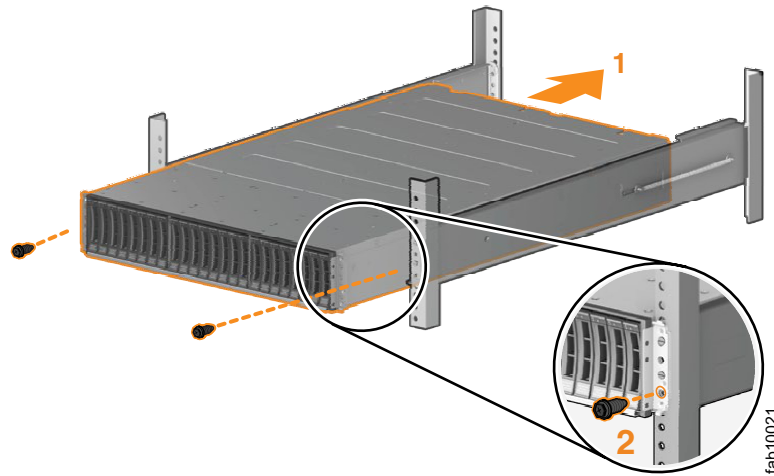
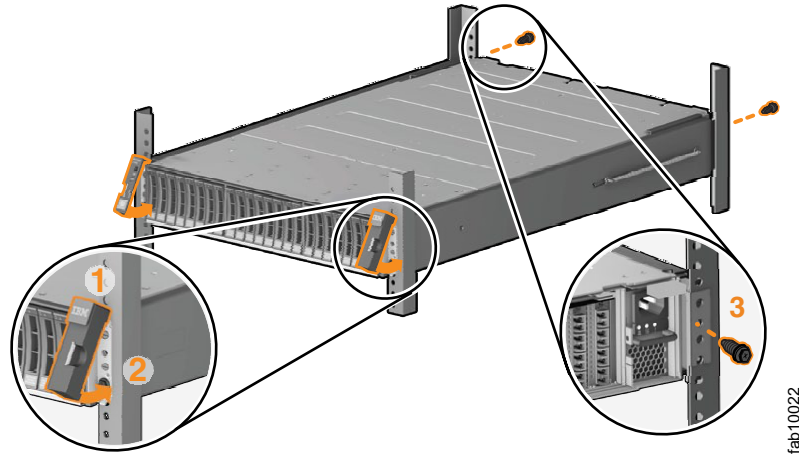

Figure 18. Inserting the enclosure
Figure 19. Reinstalling enclosure end caps
- Carefully slide the enclosure into the rack along the rails until the enclosure is fully inserted (see Figure 18).
- Secure the enclosure with screws in the rack mounting screw holes. (See Figure 18 and Figure 19 on page 21.)
- Reinstall the left and right end caps. (See Figure 19 on page 21.) The left end cap has indicator windows that align with the status LEDs (light-emitting diodes) on the edge of the enclosure.